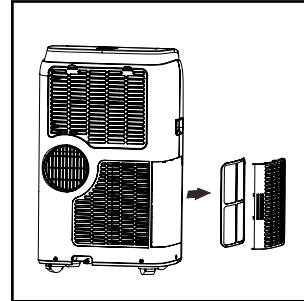

Fig. 29
Step1: Take out one filter like fig. 29.